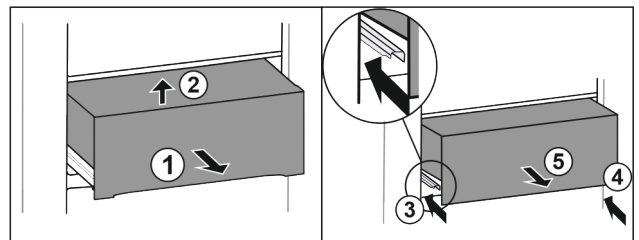

Fig. 30
- Pull out the drawer half-way *Fig. 30 (1)*.
- Lift at the front *Fig. 30 (2)*.
- Insert left rail *Fig. 30 (3)*.
- Insert right rail *Fig. 30 (4)*.
- Take out the drawer to the front *Fig. 30 (5)*.